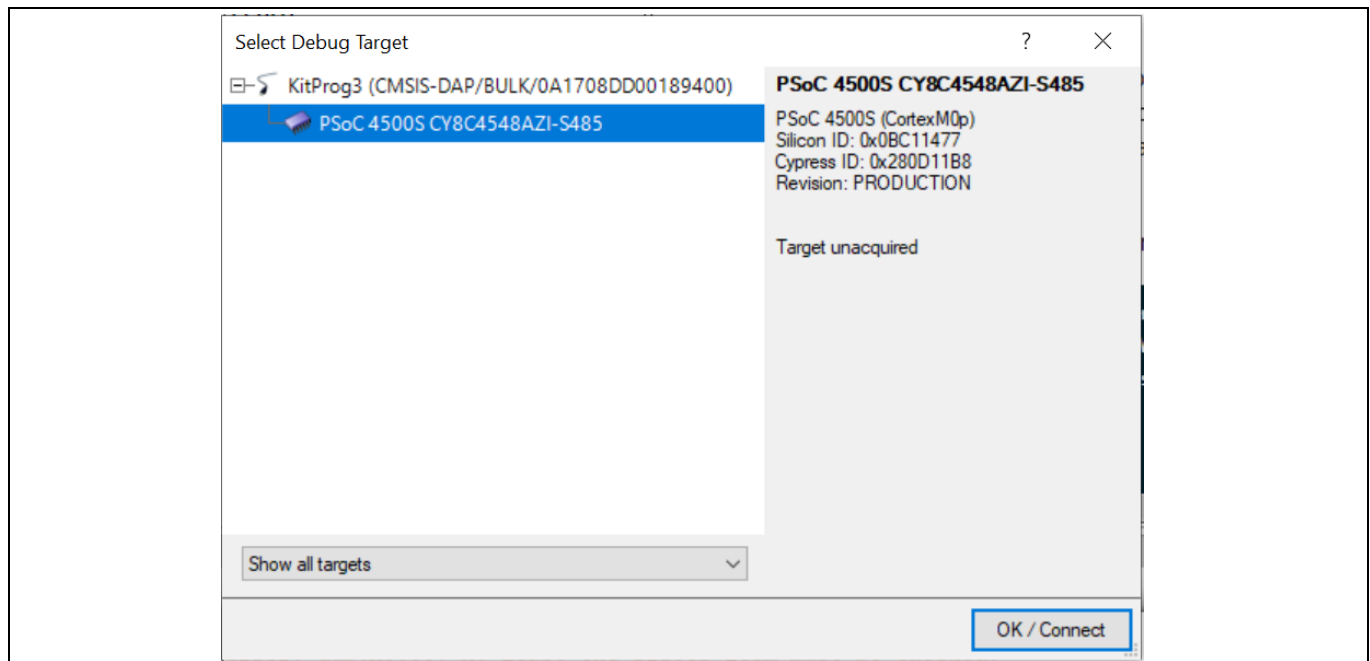

Figure 17 Connect Device from PSoC Creator and Program
- After the device is acquired, it is shown in a tree structure below the **KitProg3/<serial number>**. Click the **OK / Connect** button to exit the window and start programming, as shown in **Figure 17**.